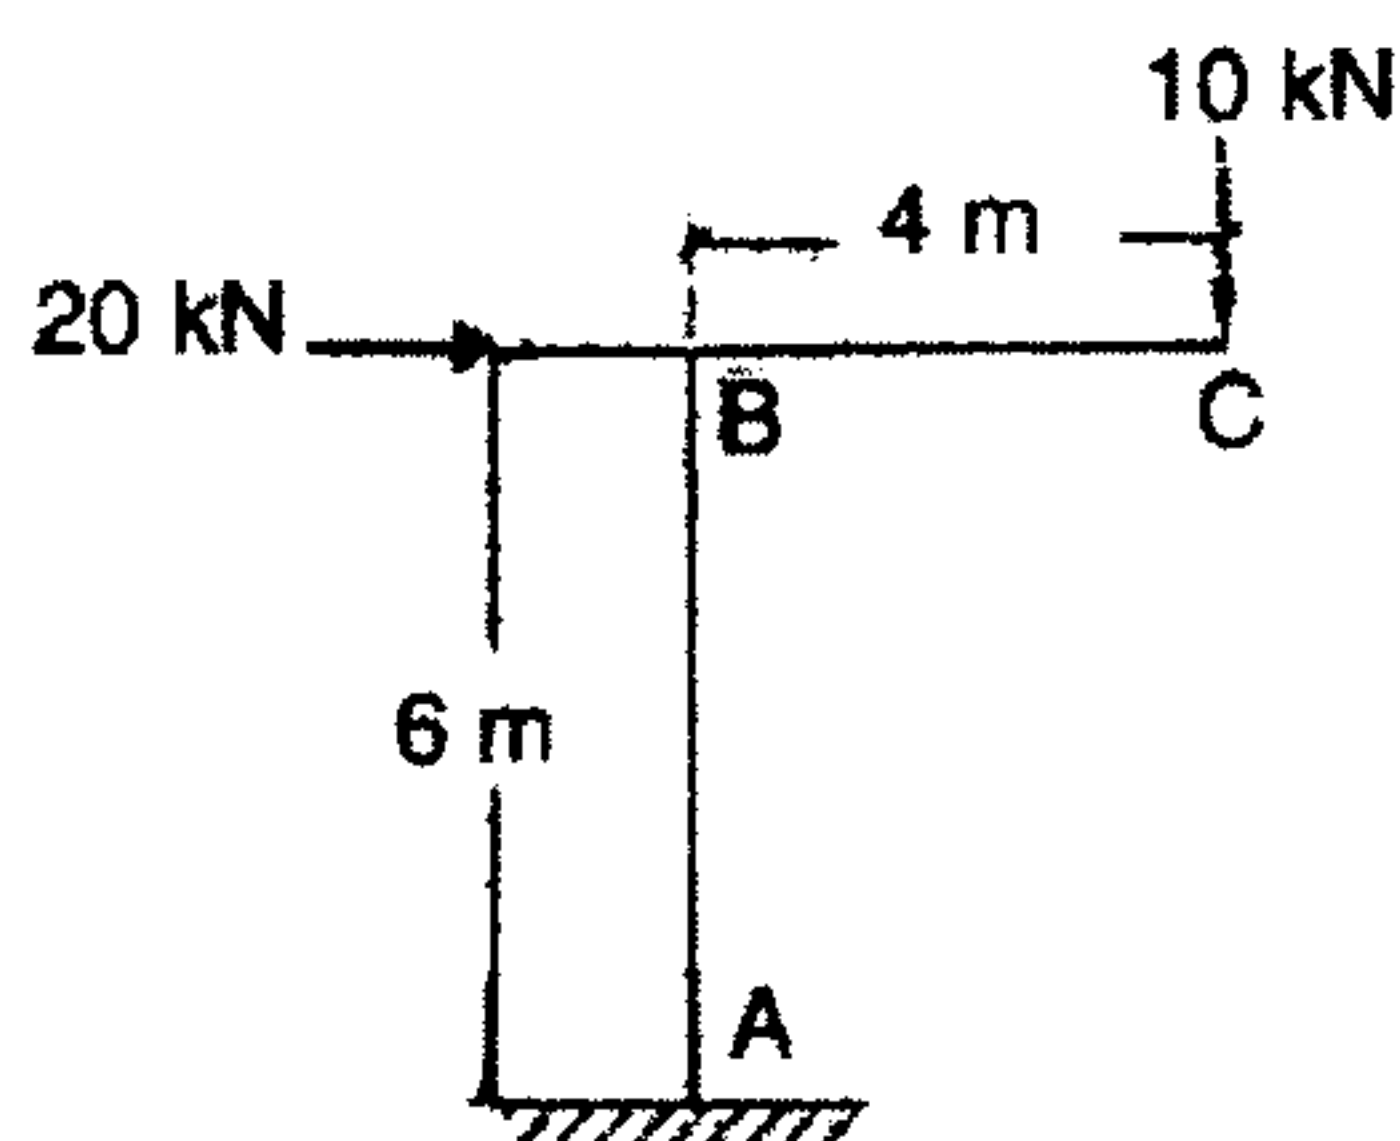

Fig. 2
10. Determine the vertical deflection at joint C of the frame shown in Fig. 2. Assume uniform flexural rigidity  $EI$  throughout.